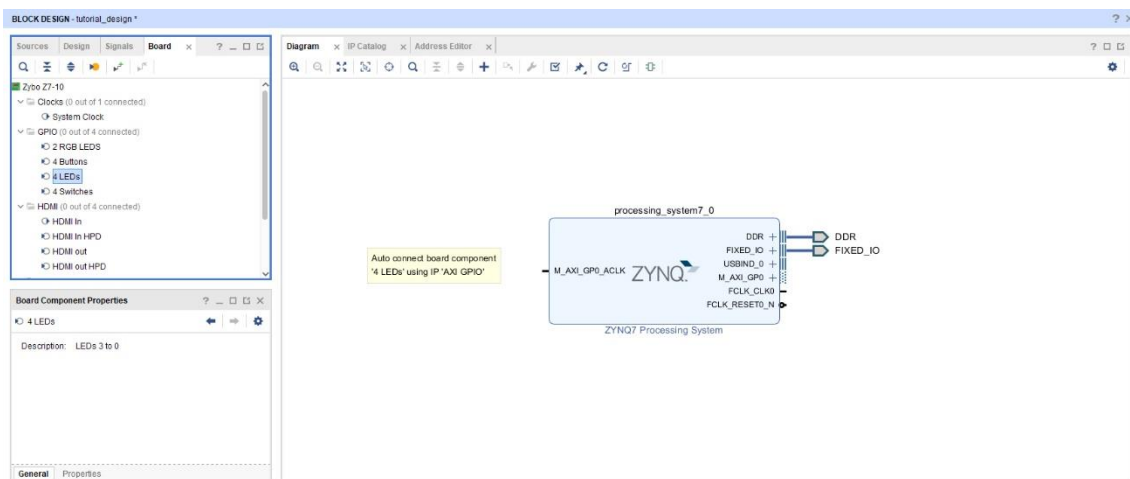

Figure 12
2. Drag and drop it into the **Diagram** window (Figure 12)